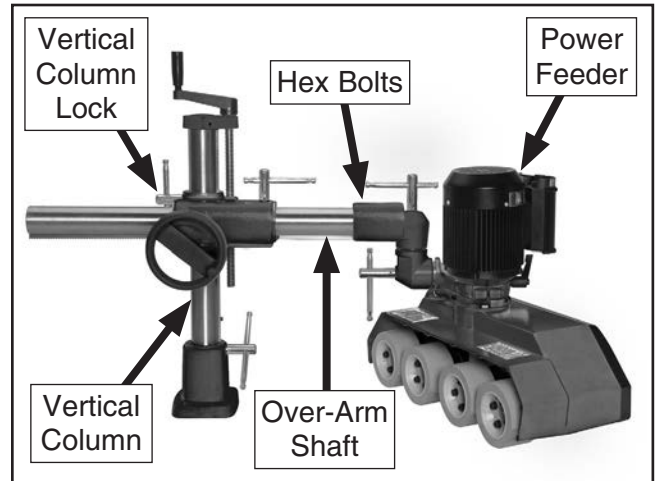

Figure 11. Power feeder attached to vertical column and over-arm shaft assembly.
8. Tighten (2) hex bolts and vertical column lock handle to secure power feeder to vertical column and over-arm shaft assembly (see **Figure 11**).